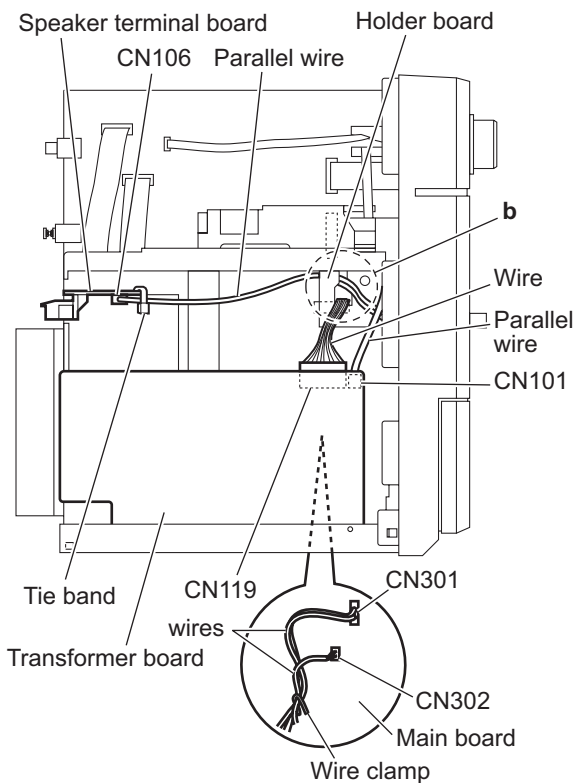

Fig.5
(4) Remove the wire clamp fixing the wires and disconnect the wires from the connector (CN301, CN302) on the forward side of the main body. (See Fig.5.)
After connecting the wires to the connectors, fix the wires with the wire clamp as before. (See Fig.5.)
(5) From the left side of the main body, disconnect the parallel wire from the connector CN101 on the transformer board. (See Fig.5.)
(6) Disconnect the wire from the connector CN119 on the transformer board. (See Fig.5.)
After connecting the wire, pass the wire through the slot **b** of the holder board as before. (See Fig.5.)
(7) Remove the tie band fixing the wire and disconnect the wire from the connector CN106 on the speaker terminal board. (See Fig.5.)
- After connecting the wire, fix the wire with a new tie band as before. (See Fig.5.)
- After connecting the wire, pass the wire through the slot **b** of the holder board as before. (See Fig.5.)